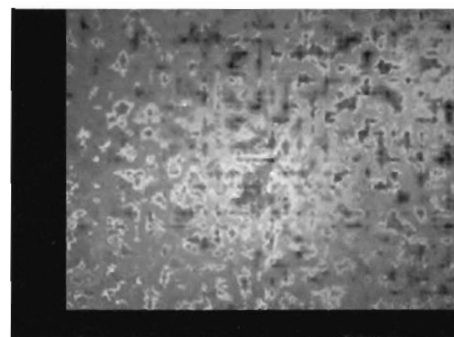

Figure 5
6. Go to the lower left-hand corner of the screen. Hold down the Alt key. Starting at coordinates of about 40X, 440Y, drag out a box until you reach the upper right hand corner of the screen. When you let go of the mouse, ToasterPaint will redraw the image, slightly smaller than full screen, and shifted to the upper right (Figure 5).